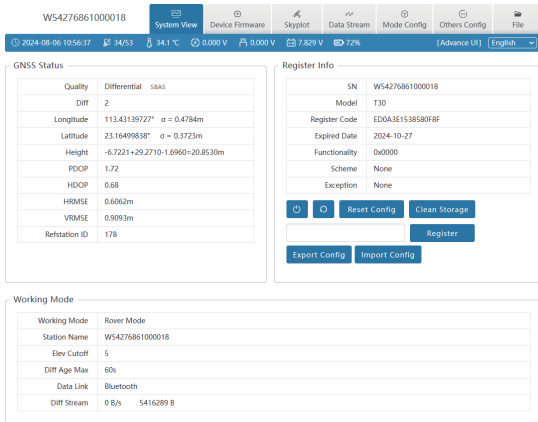

Figure 2.1-1
① GNSS Status: Quality, diff, Longitude, latitude, Height, accuracy, Ref station ID.
② Register info: SN, Model, Register Code, Expired Date, Functionality, Scheme, Exception.
③ Working mode: working mode, Station name, Elev cutoff, Diff Age Max, Data Link, Diff Stream.
④ Device Operation:
3) Registration code: The registration code is a valid time code that authorizes the device positioning function. When the registration code is found to have expired and the device positioning function is unavailable, you can obtain a new registration code from the supplier by providing the device number, enter it into this page, and click [Register] to register. The page effect is shown in Figure 2.1-1.